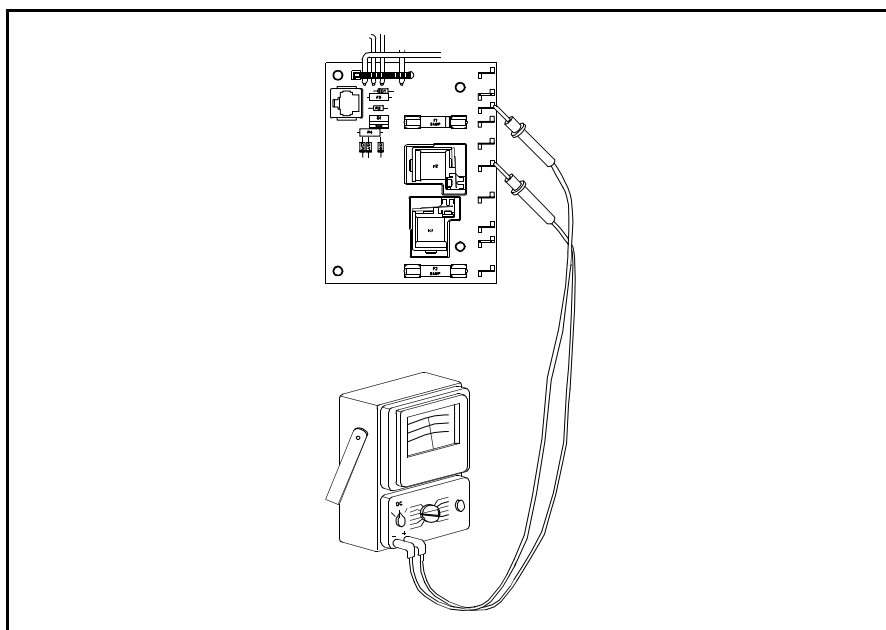

Figure 5.60 12 Volt DC Output Check
20. Check the DC heater terminals on the Power Supply for 12 volts as shown in Figure 5.60. J-3 is -, J-6 is +. If 12 volts is not measured, replace the Power Supply.